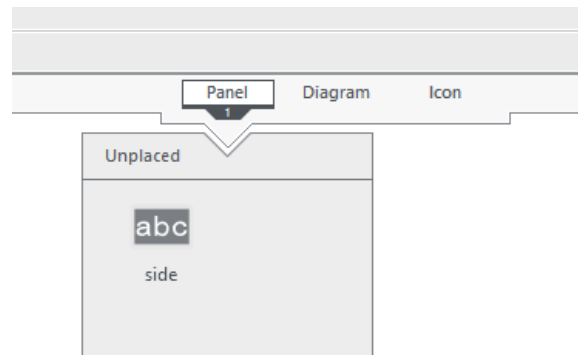

Figure 1.20: Panel tab
- Copy the diagram from **Flip a Coin** program to the new project's diagram. Click the panel tab. As it can be seen in Fig. 1.20 we can update the panel and add the “string control” whose name is “side”.